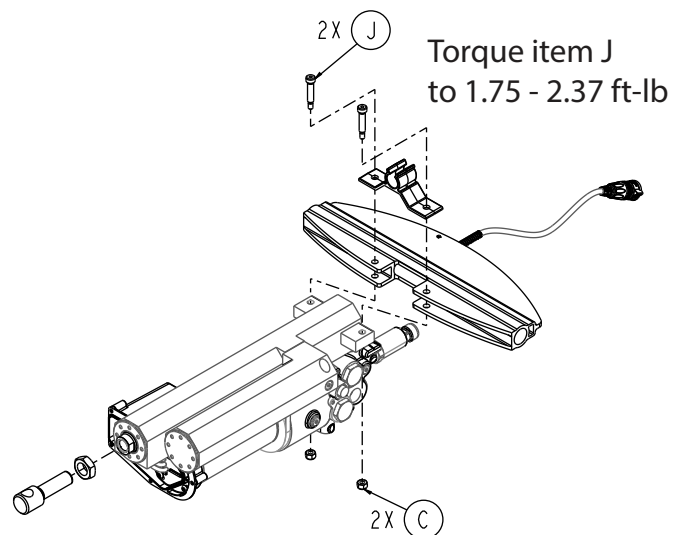

Figure 92 – Remove the actuator assembly bolts and nuts
9. Using a 1/8" hex wrench and 3/8" combination wrench, remove the two socket head shoulder bolts (J) and Fiberlock hex nuts (C) that secure the hydraulic cylinder assembly to the X-frame cross brace (Figure 92). Save the bolts and nuts.